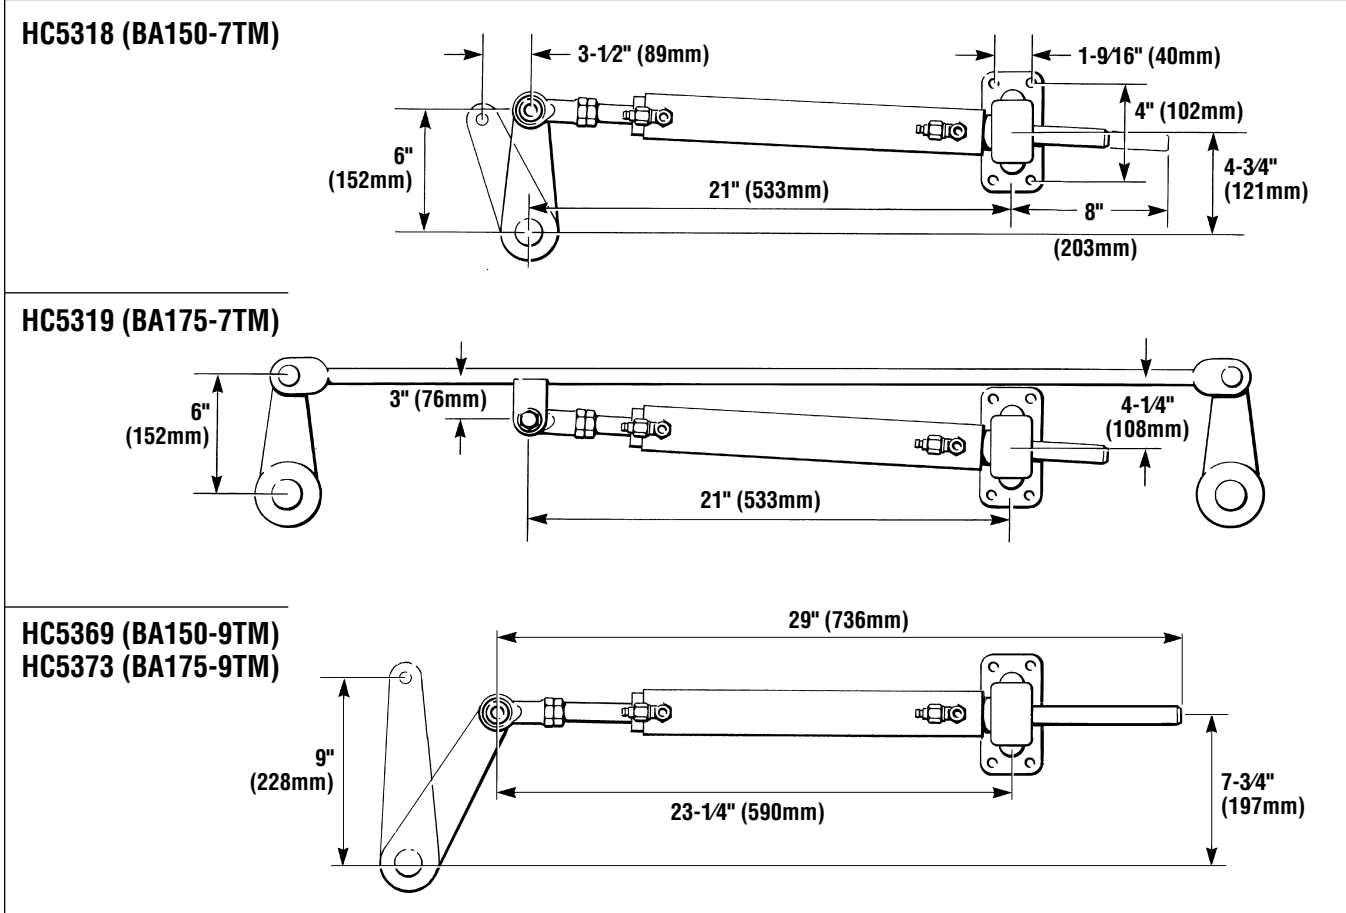

Figure 7.
- 4 Extend cylinder rod to arrive at 21" (533 mm) or 23-1/4" (591 mm) from center of rod end ball joint to the center of the mounting foot. See figure 7.